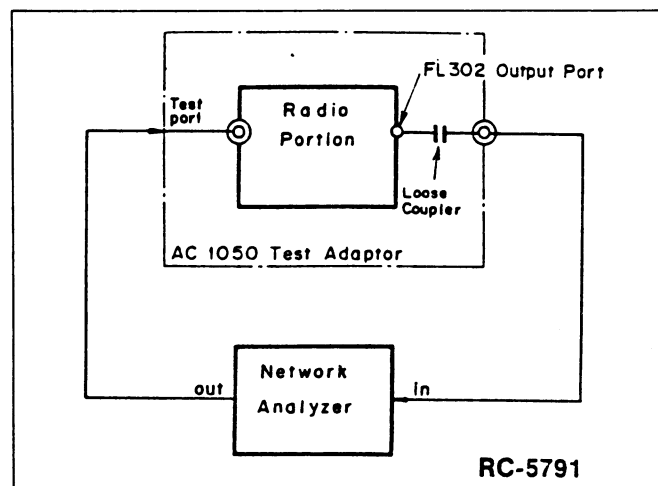

FIGURE 9 - ADJUSTMENT METHOD FOR FL301/FL302
1. Apply the output of the network analyzer to the RF coaxial input terminal and connect the loose coupled output from the FL302 output port to the network analyzer input (see Figure 9).